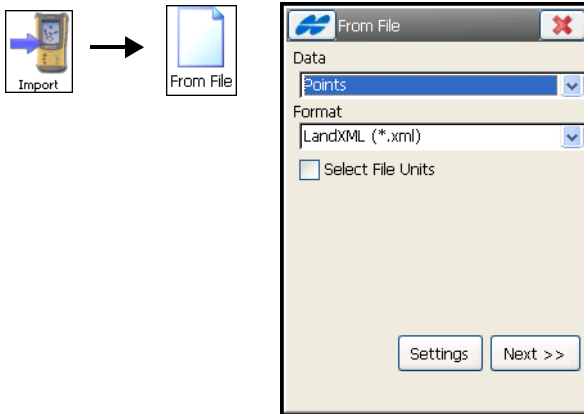

Figure 5-10. From File
1. Tap **Import ▶ From File**. On the *From File* screen select the type of data to be imported, the type of file from which to import data (Figure 5-10). If needed, check mark a box to set distance/angle units. Then tap **Next**.